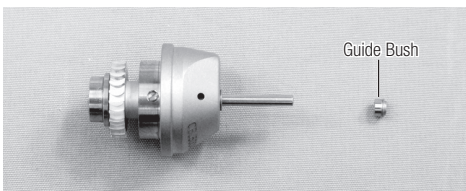

Fig. 21
- 2) Insert straight long side of Guide Bush toward the Cartridge side. (Fig. 21)